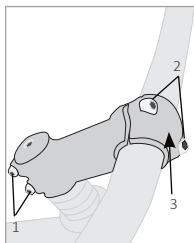
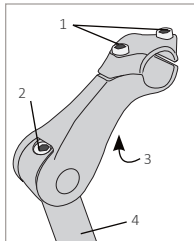

FIGURE 3.2
FIGURE 3.3
- Direct-connect (Figure 3.2)
- Quill-type (Figure 3.3)
1. Loosen the handlebar-clamp bolt(s) on the stem (Figure 3.2 or Figure 3.3).
3. Make sure the top and bottom gaps between the face plate and stem (Figure 3.2) are even on both sides.